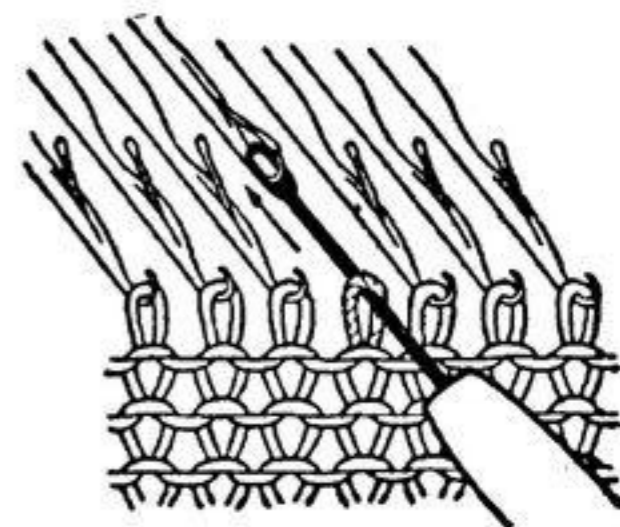

Fig. 42-1
- (a) Using the single eye Transfer Tool transfer the stitch from the needle where you wish to decrease onto the next needle towards the centre. (Fig. 42-1)